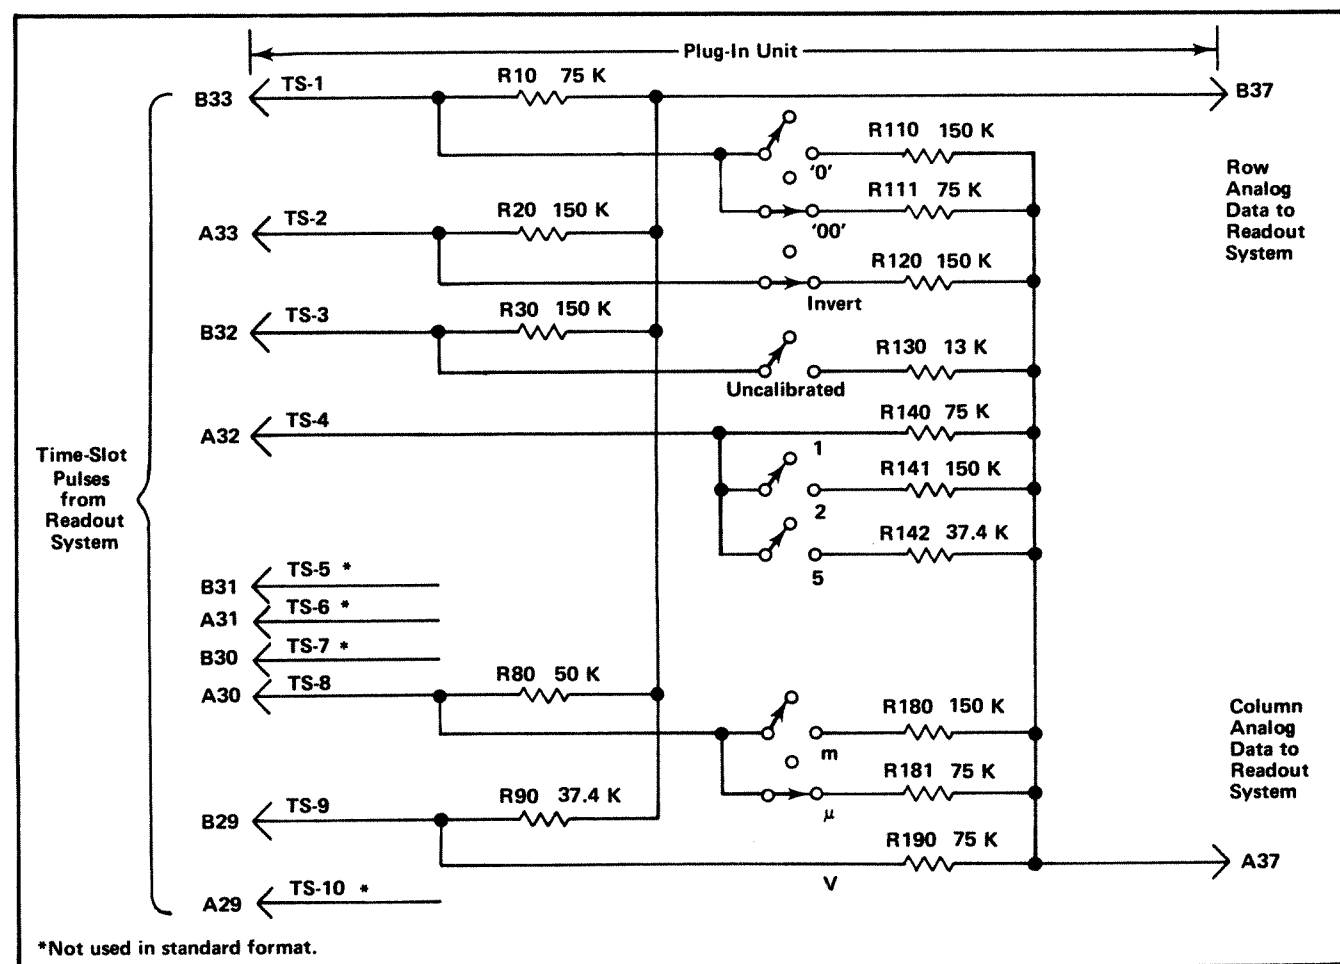

Fig. 3-45. Typical encoding scheme for voltage-sensing plug-in unit. Coding shown for deflection factor of 100 microvolts.
current levels (from zero to one milliampere in 100 microampere steps). The characters which can be selected by the encoded data are shown on the Character Selection Matrix (see Fig. 3-38). Each character requires two currents to define it; these currents are identified as the column current and the row current which correspond to the column and row of the matrix. The column and row data is encoded by resistive programming in the plug-in units. Figure 3-45 shows a typical encoding scheme for a voltage-sensing amplifier plug-in unit. Notice that the 10 time-slot (TS) pulses produced by the Time-Slot Counter stage are connected to the plug-in unit. However, time-slots 5, 6, 7, and 10 are not used by the plug-in unit to encode data when using the Standard Readout Format (see Table 3-2 for Standard Readout Format). The amplitude of the time-slot pulses is exactly -15 volts as determined by the Timer stage. Therefore, the resultant output current from the plug-in units can be accurately controlled by the programming resistors in the plug-in units.
For example, in Fig. 3-45 resistors R10 through R90 control the row analog data which is connected back to the Readout System. These resistors are of fixed value and define the format in which the information will be presented by the Readout System. Fig. 3-46A shows an idealized output current waveform of row analog data which results from the 10 time-slot pulses. Each of the steps of current shown in these waveforms corresponds to 100 microamperes of current. The row numbers on the left-hand side of the waveform correspond to the rows in the Character Selection Matrix shown in Figure 3-38. The row analog data is connected back to the Readout System via terminal B37 of the plug-in interface.
The Column analog data is defined by resistors R110 through R190. The program resistors are connected to the time-slot lines by switch closures to encode the desired data. The data as encoded by the circuit shown in Fig. 3-45 indicates a 100 microvolt sensitivity with the display inverted and calibrated vertical deflection factors. This results in the idealized output current waveforms shown in Fig. 3-46B at the column analog data output, terminal A37 of the plug-in interface. Resistor R111, connected between time-slot 1 and the column analog data output encodes two units of current during time-slot 1. Referring to the Character Selection Matrix, two units of column current along with the two units of row current encoded by R10 (row 3) indicates that two zeros should be added to the display. Resistor R120 adds one unit of column current during time-slot 2 and along with the one unit of current from the row output, the Readout System is instructed to add an invert arrow to the display. R130 is not connected to the time-slot 3 line since the vertical deflection factors are calibrated. Therefore, there is no column current output during this time-slot and there is no display on the CRT (see Display-Skip Generator for further information). During time-slot 4, two units of column current are encoded by R140. There is no row current encoded during
The column analog data encoded by the plug-in can be modified by attenuator probes connected to the input connectors of vertical plug-in units. A special coding ring around the input connector of the plug-in unit senses the attenuation ratio of the probe (with readout-coded probes only). The probe contains a resistor which results in additional column current. For example, if a 10X attenuator probe is connected to a plug-in with the coding for 100 microvolts as shown in Fig. 3-45, an additional unit of current is added to the column analog data during time-slot 1. Since two units of current were encoded by R111 (see Fig. 3-45), this additional current results in a total of three units of column analog current during this time-slot. Referring to the Character Selection Matrix, three units of column current along with the two units of row current encoded by R10 indicates that the prefix should be reduced. Since this instruction occurs in the same time-slot which previously indicated that two zeros should be added to the display and only one instruction can be encoded during a time-slot, the zeros do not appear in the display. The CRT readout will now be reduced to 1 mV (readout program produced by plug-in same as for previous example).
Finally, memory C is interrogated during time-slot 8 to obtain information on whether the prefix should be reduced or left at the value which was encoded. If data has been encoded which calls for a reduction in prefix, a negative-going output level is produced at pin 7. This negative level subtracts one unit of column current from the data at the input to the Column Decoder stage. Notice on the Character Selection Matrix of Fig. 3-38 that a reduction of one column when row 4 is programmed results in a one unit reduction of the prefix. For example, with the 100 μ V program shown in Fig. 3-45, if the data received from the plug-in called for a reduction in prefix the CRT readout would be changed to 1 mV (zeros deleted by program; see Encoding the Data).